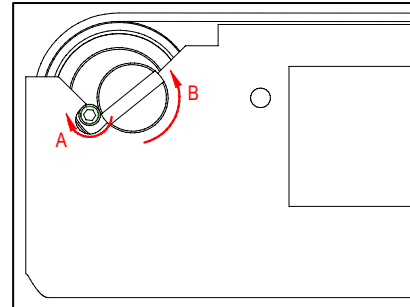

Figure 1
- a. At the tail end rotate set screw clockwise until it clears the inside of the frame (**Figure 1**).
- b. Rotate the tail shaft counter-clockwise (using a Flat Head Screw Driver) until the tension from the belt is released (**Figure 1**).